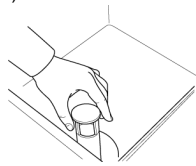

Fig.38
- 2- Open the door and remove the water flow device. (Fig.38)